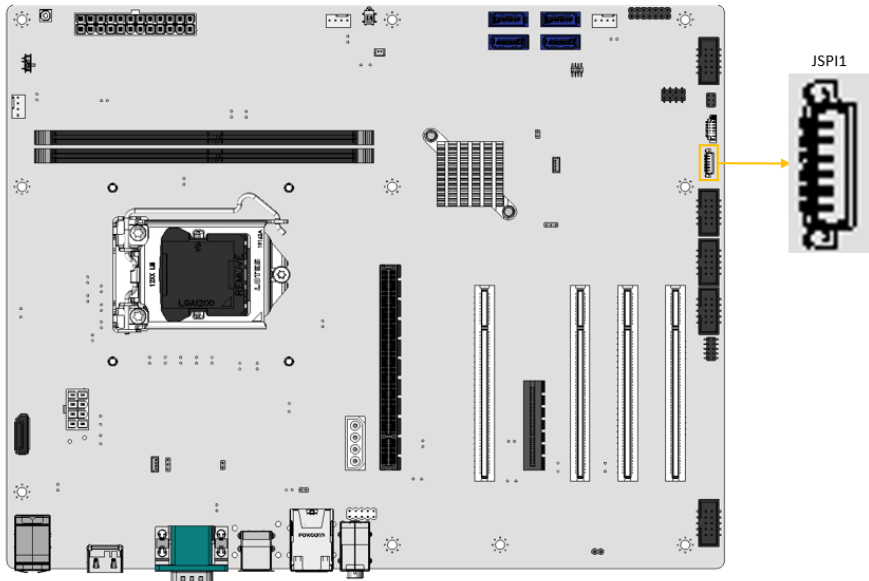

Figure 3-25: Flash SPI ROM Connector Location
- CN Location:** See Figure 3-25